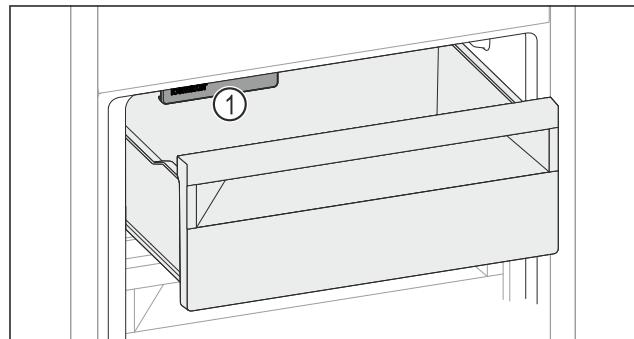

Fig. 155
- ▶ Watch out for the IceMaker Fig. 155 (1).